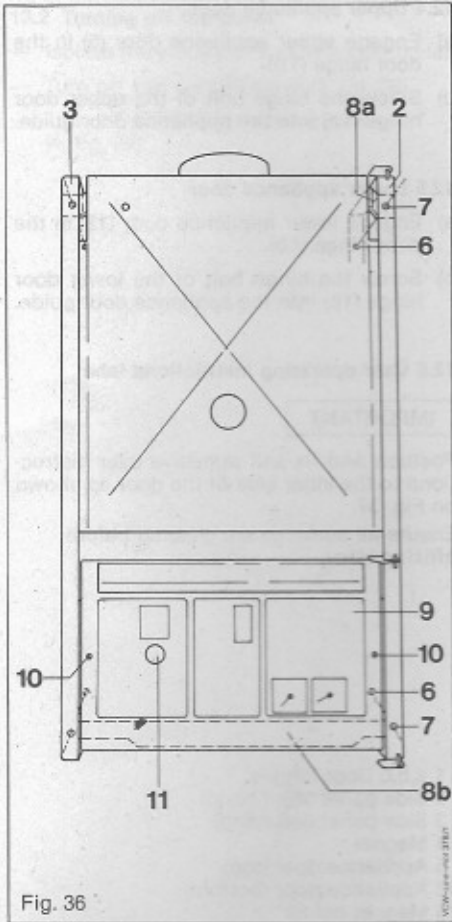

Fig. 36
12.2 Side panels (Fig. 36)
Remove screen plate by unscrewing the two fixing screws (10, Fig. 36).
Remove side panels by unscrewing top and bottom screws (7, Fig. 36) to clear internal clips and then pulling panels outwards and off.